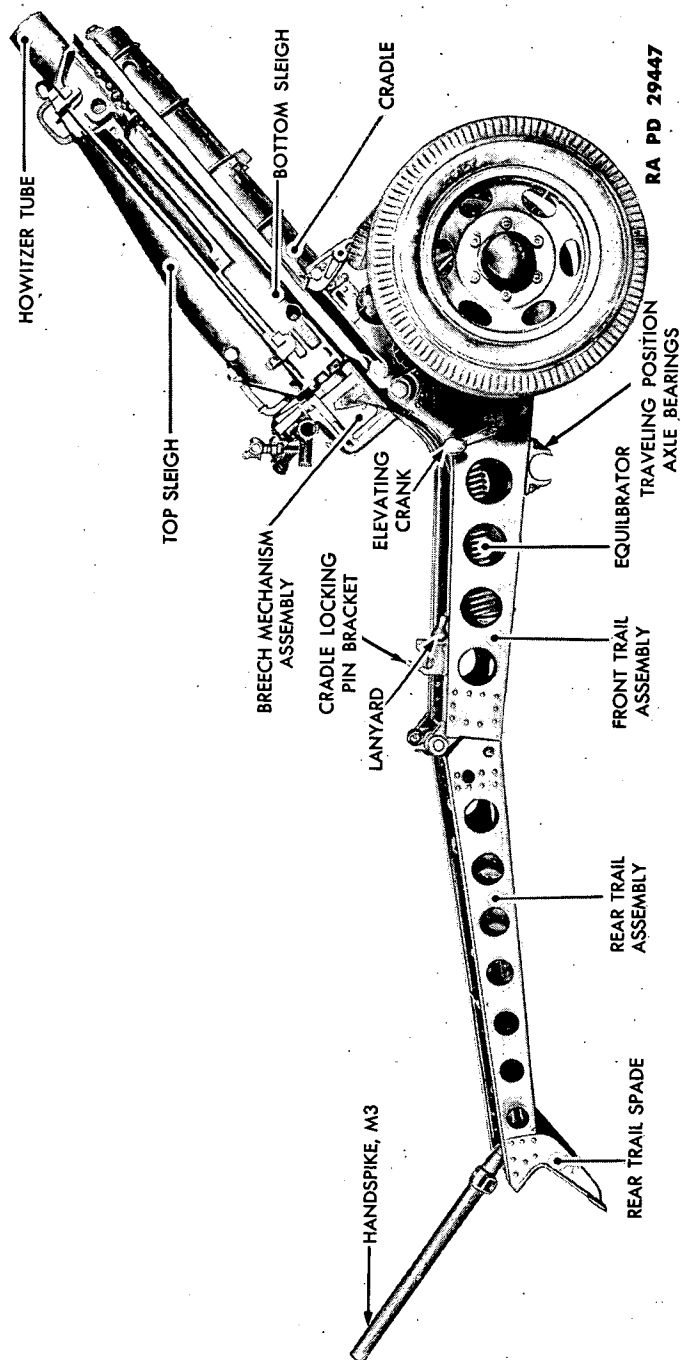

Figure 3—75-mm Pack Howitzer M1A1 and Carriage M8—Howitzer Fully Elevated
b. The M1 Carriage is arranged for dismounting into mule packs, and the M8 is adapted to paracrate packs for parachute delivery. The M1 Carriage, which is the mule pack carriage, has wooden wheels and steel tires (figs. 1 and 2), while the M8 Carriage is equipped with commercial automotive type wheels and pneumatic tires (figs. 3, 4, and 6).